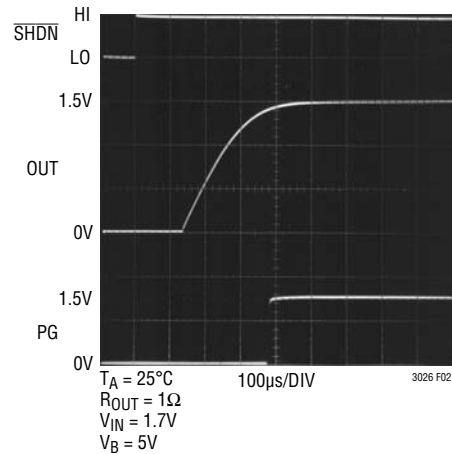

Figure 2. Soft-Start with Boost Disable
**ADJ (Pin 8):** Output Adjust Pin. This is the input to the error amplifier. It has a typical bias current of 0.1nA flowing into the pin. The ADJ pin reference voltage is 0.4V referenced to ground. The output voltage range is 0.4V to 2.6V and is typically set by connecting ADJ to a resistor divider from OUT to GND. See Figure 2.
The LTC3026 also includes a soft-start feature to prevent excessive current flow at  $V_{IN}$  during start-up. When the LDO is enabled, the soft-start circuitry gradually increases the LDO reference voltage from 0V to 0.4V over a period of approximately 200µs, see Figure 2.